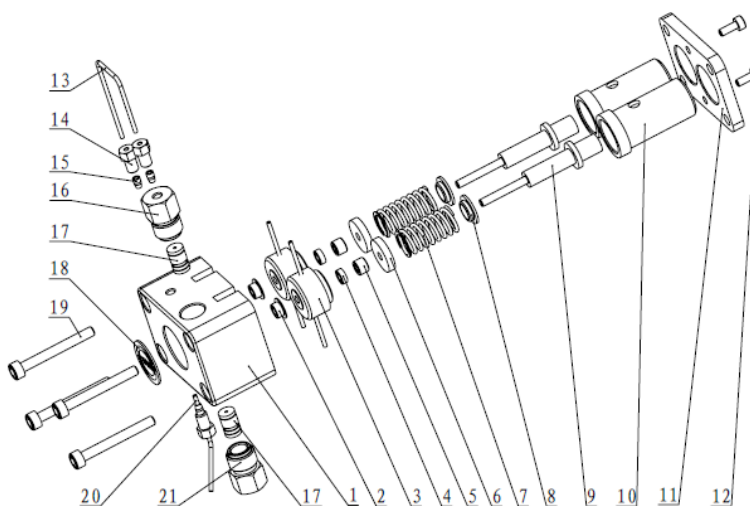
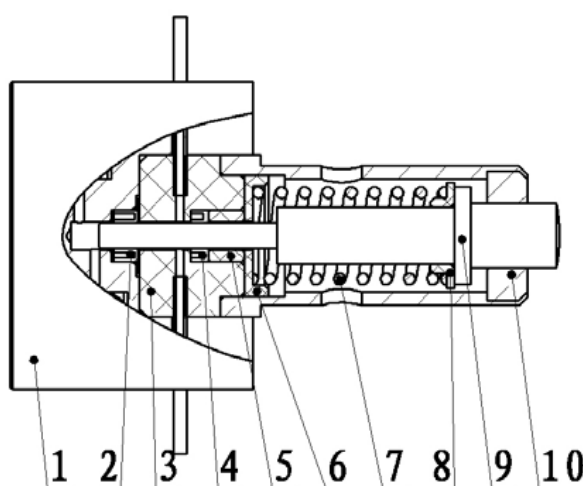

Figure5-5: pump head assembly
Figure 5-6: Cross-section of sapphire plunger
- 4) When installing the pump head, pay attention to evenly tighten the four fixed screws, referring to Figure 5-5.
Pump head disassembly and installation methods are as follows (Refer to Figure 5-5, Figure 5-6):
- 1) Place the pump head body on a flat surface. Use 2.5# hexagonal key to unscrew the 2 mounting plate screws, #12 on Figure 5-5. Remove the clamp (10#).
- 2) Unload the sleeve (figure 5-5 #10), plunger rod components (figure 4-3 #9), plunger spring (figure 5-5 #7), locating sleeve (figure 5-5 #3) etc.
- 4) Take out the primary seal carefully (figure 5-5 #2) (user should not remove it unless replace a new one is needed).
- 5) Put the new primary seal (the openings with spring should be in the direction of the pump head) into the pump head body (Figure5-6 #1).
- 6) Place all parts in order according to Figure5-6. Install the pressure plate.